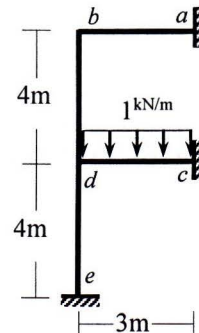
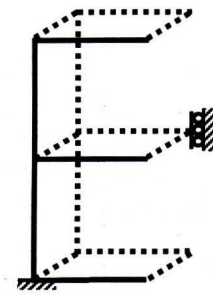

Fig. 3
Fig. 4
- Use Stiffness Method considering flexural deformations only to calculate the unknown rotations at joint *b* and *d* of the frame *abcde* loaded as shown in **Fig. 3** [Given: $EI = 16 \times 10^3$ kN-m²].
- Determine the degree of kinematic indeterminacy (*doki*) and show the corresponding deflections and rotations of the 2D frame (**Fig. 3**) and 3D frame (**Fig. 4**), for the following cases (i) Not considering boundary conditions, (ii) Considering boundary conditions, (iii) Neglecting axial deformations.